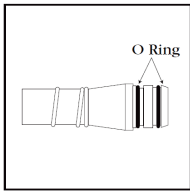

Figure 5
- Solution: Remove spout and clean debris. Always use new o-rings provided by OPW for replacement (see Figure 5, next page). Re-test as required.
Check the spout o-rings to make sure they are not cut or missing (see *Figure 5*).